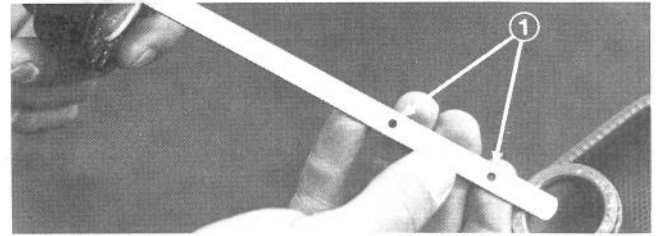

Figure 18
1. Remove the cap from the top of the reservoir (Fig. 17) and check the oil level. The oil should be up to the lower hole on the dipstick when the oil is cold and between the holes at operating temperatures. Add SAE 10W-30 or 10W-40 engine oil if the level is low (Fig. 18). Reinstall the cap. Make sure it is firmly in place.